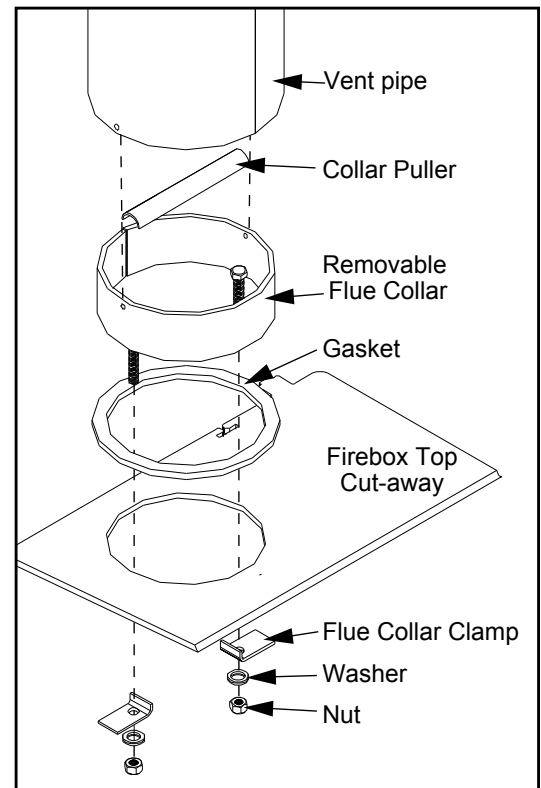

Figure 13: Attaching removable flue collar.
- a) Remove the rear two (2) secondary air tube and C-Cast Ceramic Baffles, if installed (see C-CAST CERAMIC BAFFLE INSTALLATION). Remove the secondary air tubes by placing a screwdriver (any style except flat head) into one of the air holes and tapping it with a hammer/mallet to the left.
- b) Unscrew the two (2) nuts on top of the inside of the firebox, using a $\frac{9}{16}$ " wrench or socket (see Figure 13). The Flue Collar Clamps will slide off the bolts.